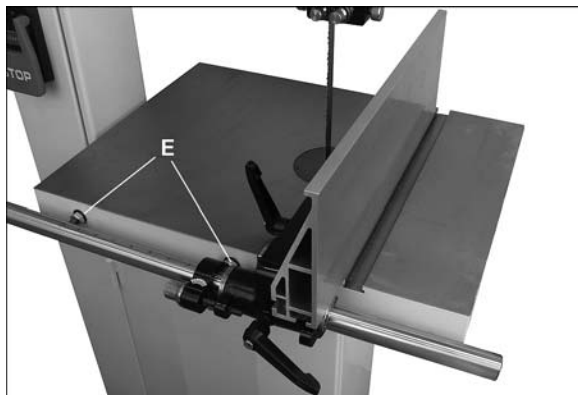

Figure 12
Refer to Figures 12 through 14.
- Slide fence to edge of miter slot, as shown in Figure 12. The fence should align with miter slot along its entire length.
- If adjustment is needed, loosen the hex nuts on one of the two adjustment screws (E, Figure 12) and turn the adjustment screw to bring fence in line with miter slot.